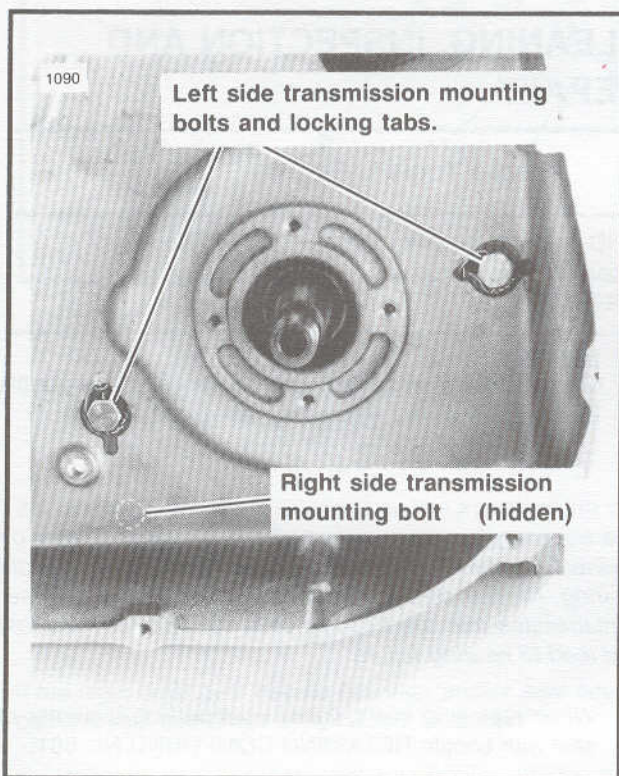

Figure 7-24. Transmission to Primary Mounting Bolts
1. Remove primary cover. See Figure 7-24. Remove transmission mounting bolts and two locking tabs. Remove primary chaincase. See Section 6. Remove starter. See Section 5.